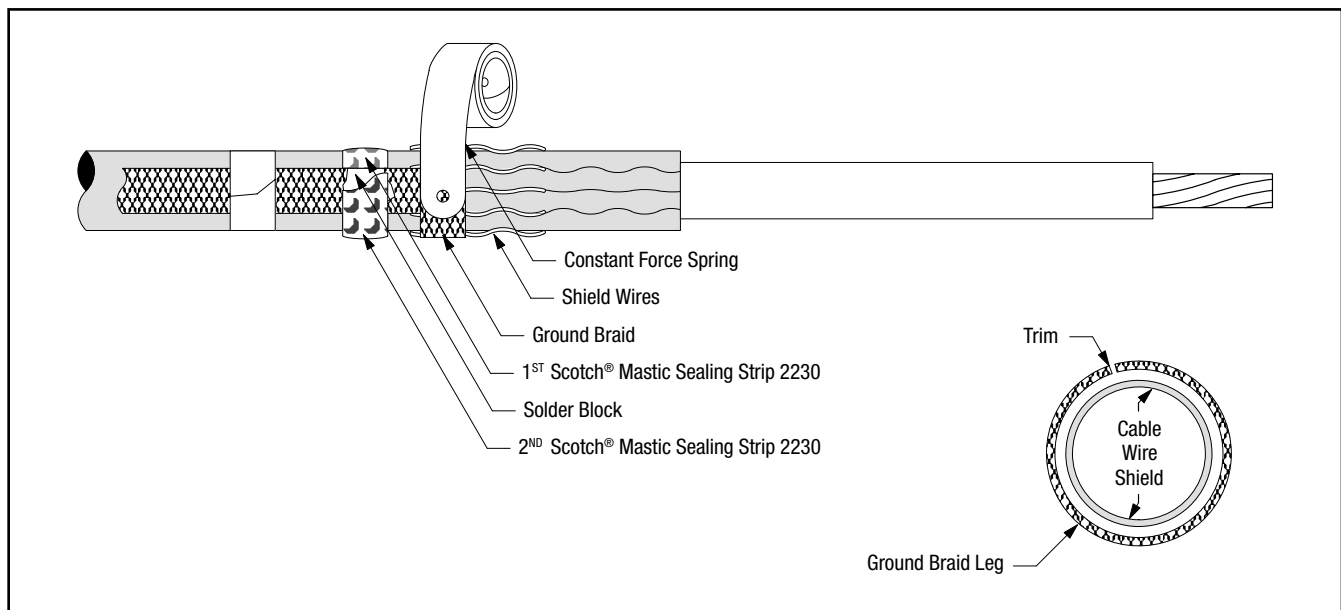

Figure 20
13.3 Wrap ground braid around cable shield wires one complete wrap, trim excess to prevent overlap and secure in place with constant force spring. Wrap spring in same direction as ground braid (*Figure 20*). Cinch (tighten) the spring after wrapping the final winding.
13.4 Select second Scotch® Mastic Strip 2230 from kit and remove white release liners. Apply a second **SINGLE WRAP** of mastic over solder block on ground braid and previously applied mastic (*Figure 20*). Cut off excess.